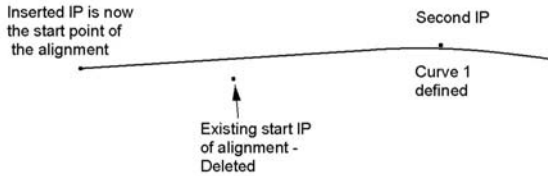

Figure 13-33. IP Original Start IP Deleted and New IP is Start of Alignment
Use the Delete IP command to delete an intersection point (IP) from the definition of an existing alignment (Figure 13-33).